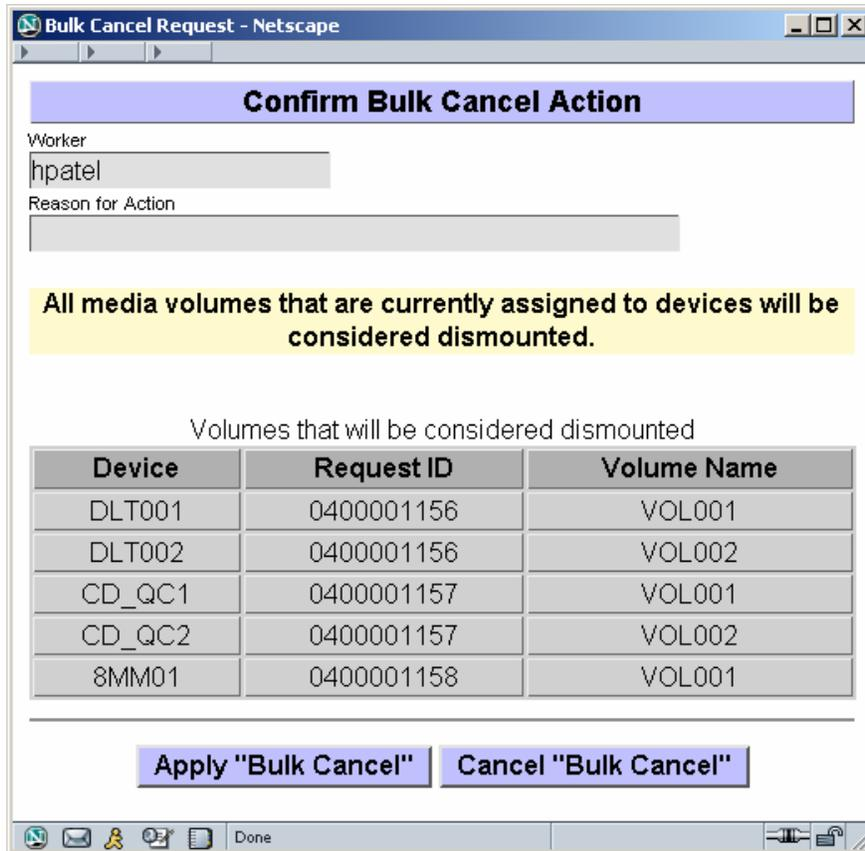

Figure 4.11.13-16a. Bulk Cancel
- If there are Physical Media requests that are bulk cancelled the media volumes for these requests will be considered dismantled. The Bulk Cancel pop-up window will list the Device, Request ID, and Volume Name for each volume that will be marked dismantled (see Figure 4.11.13-16a)